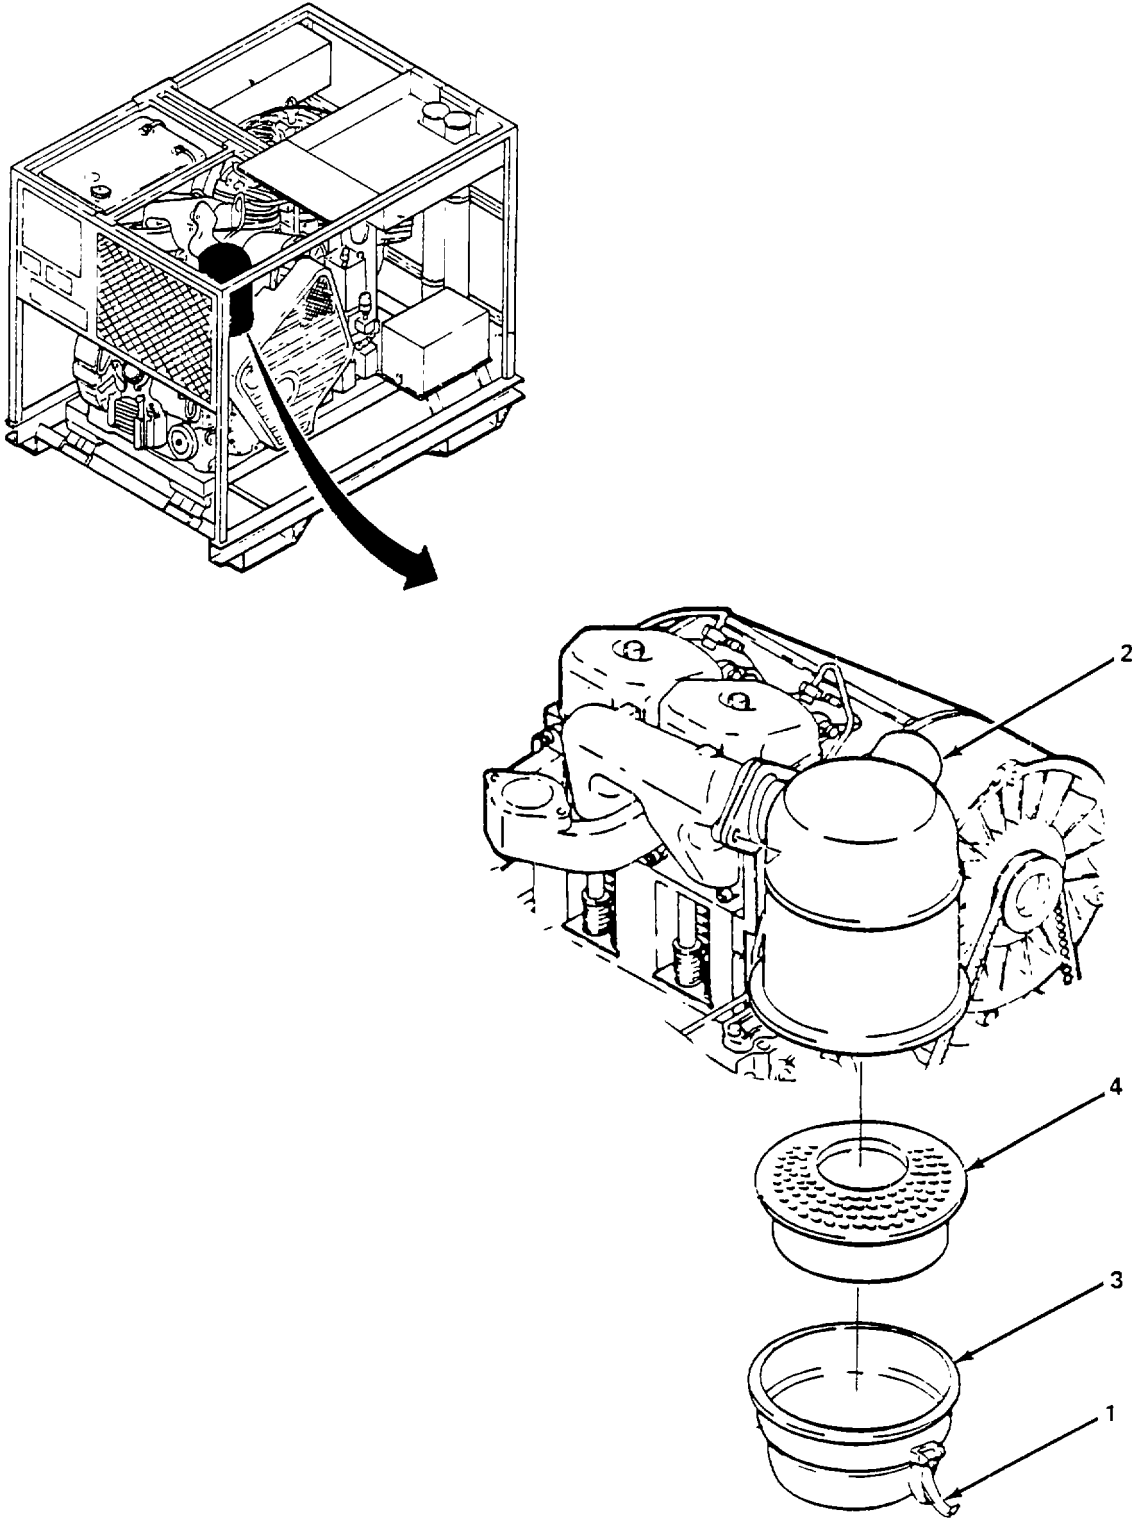

Figure 4-45. Oil Bath Air Filter Assembly, Service.
a. Service. (figure 4-45)
- (1) Release two clips (1) on filter housing (2) and remove bowl (3) and metal filter (4).
- (2) Remove metal filter (4) from bowl (3).
- (3) Pour oil from bowl (3) into suitable container.
- (4) Clean housing (2), bowl (3), and metal filter (4) with dry cleaning solvent and brush. Blow dry with compressed air.